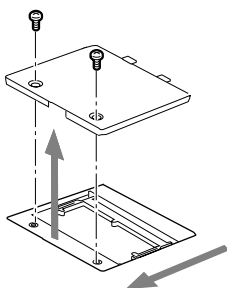

Figure 4-2. Opening the Memory Upgrade Compartment
3. Turn the notebook bottom side up, and remove the screws of the memory upgrade module compartment. (Figure 4-2)
Compact Flash Cards are inserted in the Compact Flash Card slot. To insert a Compact Flash Card, follow these steps: (Figure 4-2)